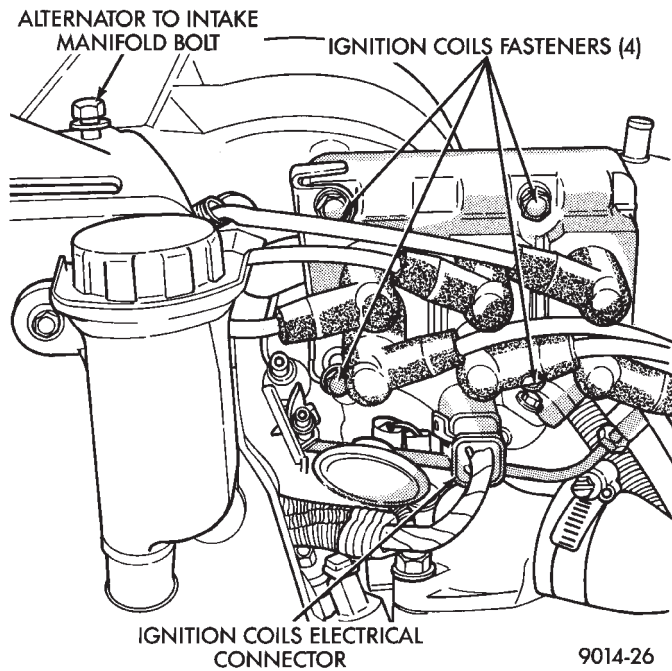

Fig. 8 Ignition Coils
(13) Remove direct ignition system (DIS) coils and generator bracket to intake manifold bolt (Fig. 8).
(17) Torque generator bracket to intake manifold bolt to 54 N•m (40 ft. lbs.) (Fig. 8).
(26) Install the direct ignition system (DIS) coils. Torque fasteners to 12 N•m (105 in. lbs.) (Fig. 8).